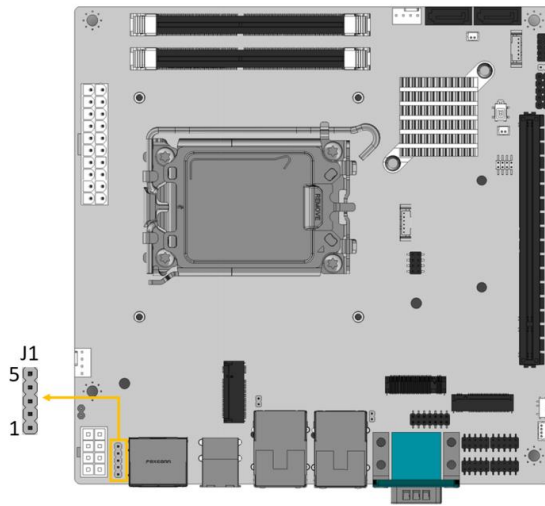

Figure 3-24: VR Power IC Debug Connector Location
- CN Location:** See **Figure 3-24**